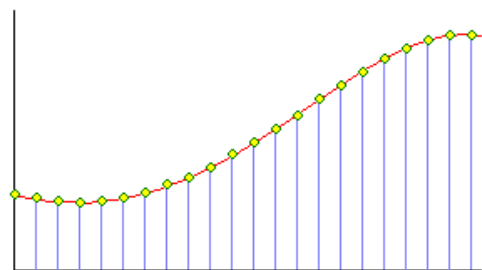

Figure 7.4: Analog sound sampling
**Sampling.** During sampling, i.e. the conversion of analogue sound (generally a signal) to digital data, some information is always lost. The principle can be seen in Figure 7.4. The horizontal axis is time, and the signal value is taken at regular intervals.
Also related to sample rate is the concept of *sample depth* (sample precision, sample size). It is the number of bits used to store a single sample. A higher sample depth (more bits) means a finer division of the interval (in Figure 7.4, this interval would be plotted vertically). The usual sample depth is 8 or 16 bits.